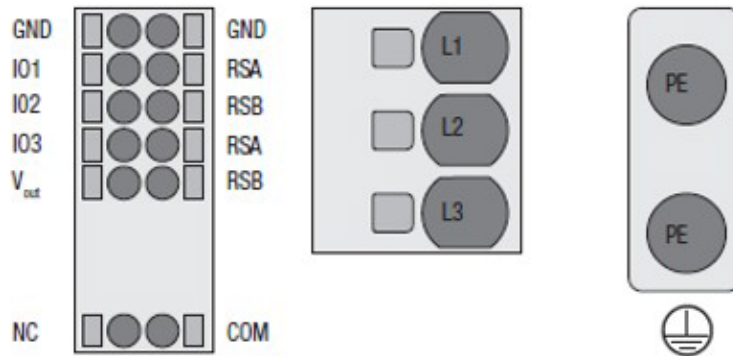
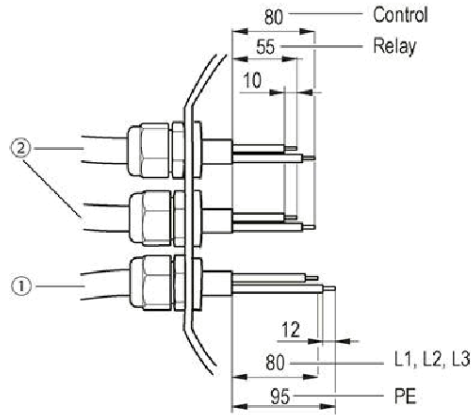

Figure 22. Terminal Block Diagram
Figure 26. Recommended Stripped Lengths (Inside Terminal Box) (1) Supply Line (2) Control and Relay Line
- Remove caps from the cable glands. Label and remove wiring from terminal blocks shown in **Figure 22**. Carefully tag these wires properly to ensure that they are connected at the same location on the new fan. These wires carry polarity sensitive signals.
12. Wire terminal blocks shown in **Figure 22** following the wire labels created in **Step 4**. Refer to **Table 5** for more information on connection designations. Only strip the cable as far as necessary, ensuring that the cable glands are sealed and there is no strain on the connections. Recommended stripped lengths (inside terminal box) are shown in **Figure 26**, (1) supply line (2) control and relay line. After terminating the wire, pull-test the wire to ensure proper installation.